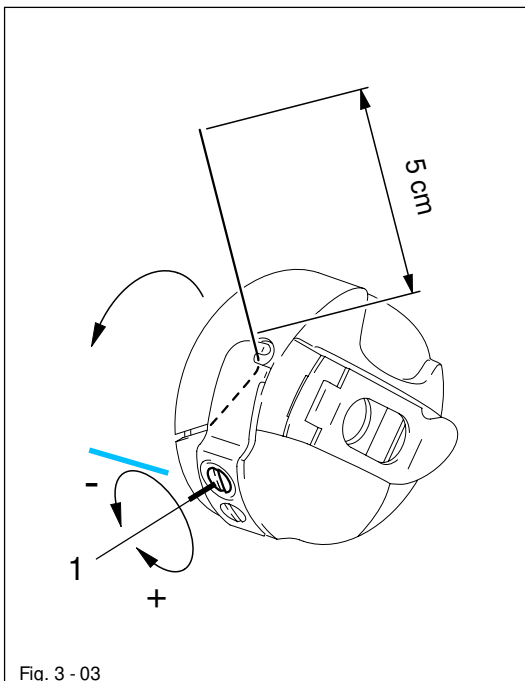

Fig. 3 - 03
- Guide the thread through the slit and below the spring as shown in Fig. 3 - 03.